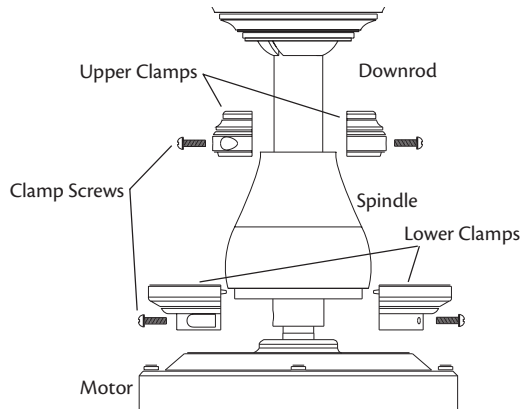

Figure 24 - Attaching decorative clamps
1. Place the two halves of the lower clamp around the lower end of the spindle and the motor adapter. See Figure 24
2. Insert two screws into the lower clamps and tighten to lock the clamp into place. See Figure 24
3. With the lower clamp in place, take both pieces of the upper clamp and place them around the downrod and spindle. See Figure 24.
4. Insert and tighten the two screws so that the upper clamp assembly locks in place. See Figures 24 and 25.